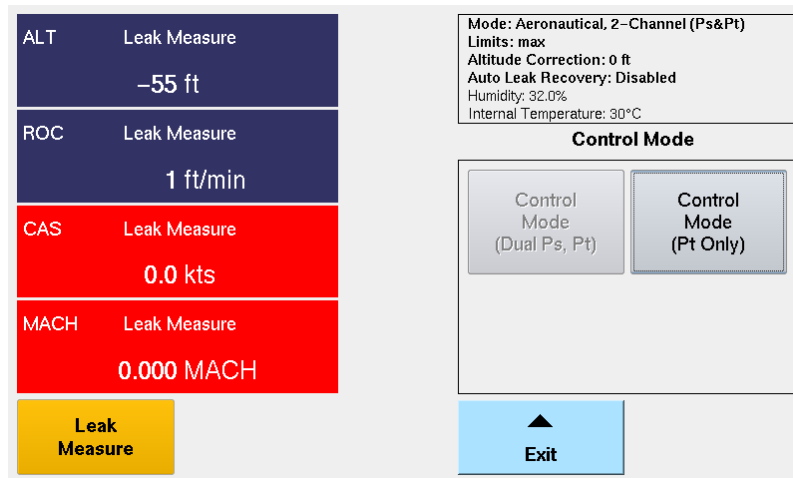

Figure 19 Default 2-Channel (Dual Ps, Pt) mode
- (1) Default: Aeronautical 2-Channel (Ps&Pt) (Figure 19)